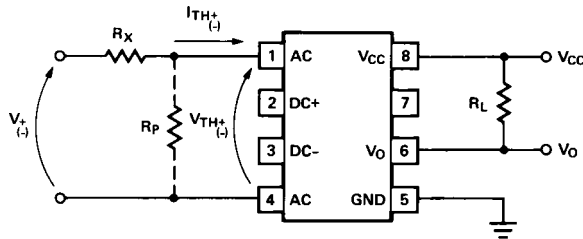

Figure 13. External Threshold Voltage Level Selection.
The HCPL-3700/3760 optocouplers have internal temperature compensated, predictable voltage and current threshold points which allow selection of an external resistor, R_X , to determine larger external threshold voltage levels. For a desired external threshold voltage, $V_{\pm}$, a corresponding typical value of R_X can be obtained from Figure 12. Specific calculation of R_X can be obtained from Equation (1). Specification of both V_+ and V_- voltage threshold levels simultaneously can be obtained by the use of R_X and R_P as shown in Figure 13 and determined by Equations (2) and (3).